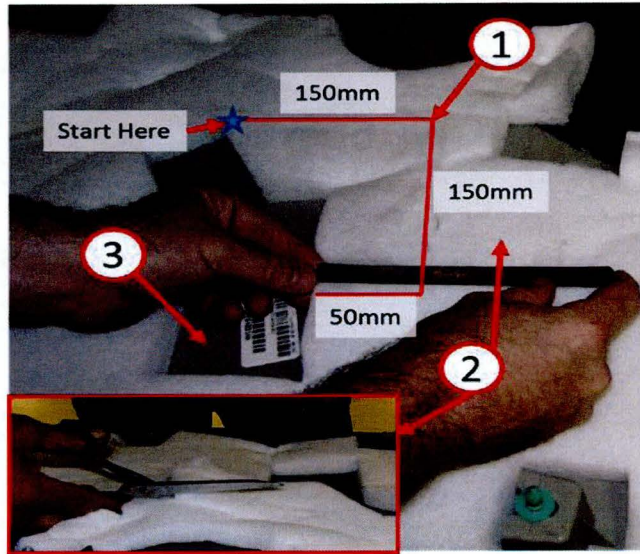

Fig. 3 Trim Sound Deadener
3. Cut the sound deadener on the back side of each door panel as shown in (Fig. 3).